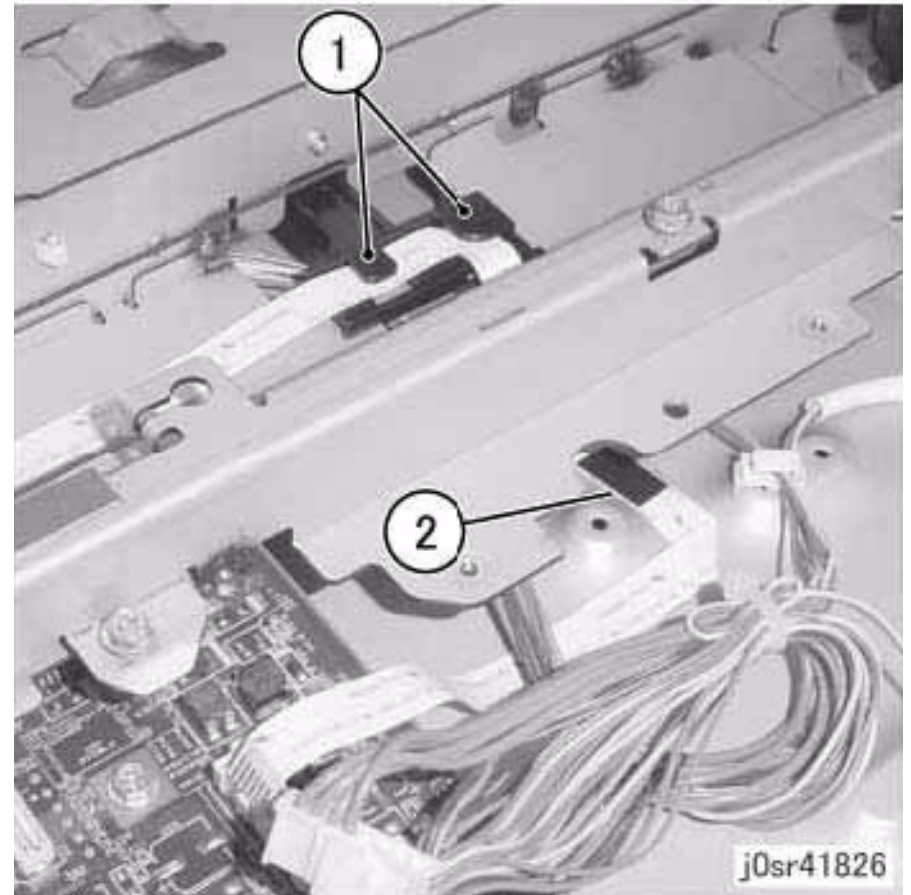

Figure 4 Release the Lamp Wire Harness from the hook
6. Release the Lamp Wire Harness from the hook. (Figure 4)